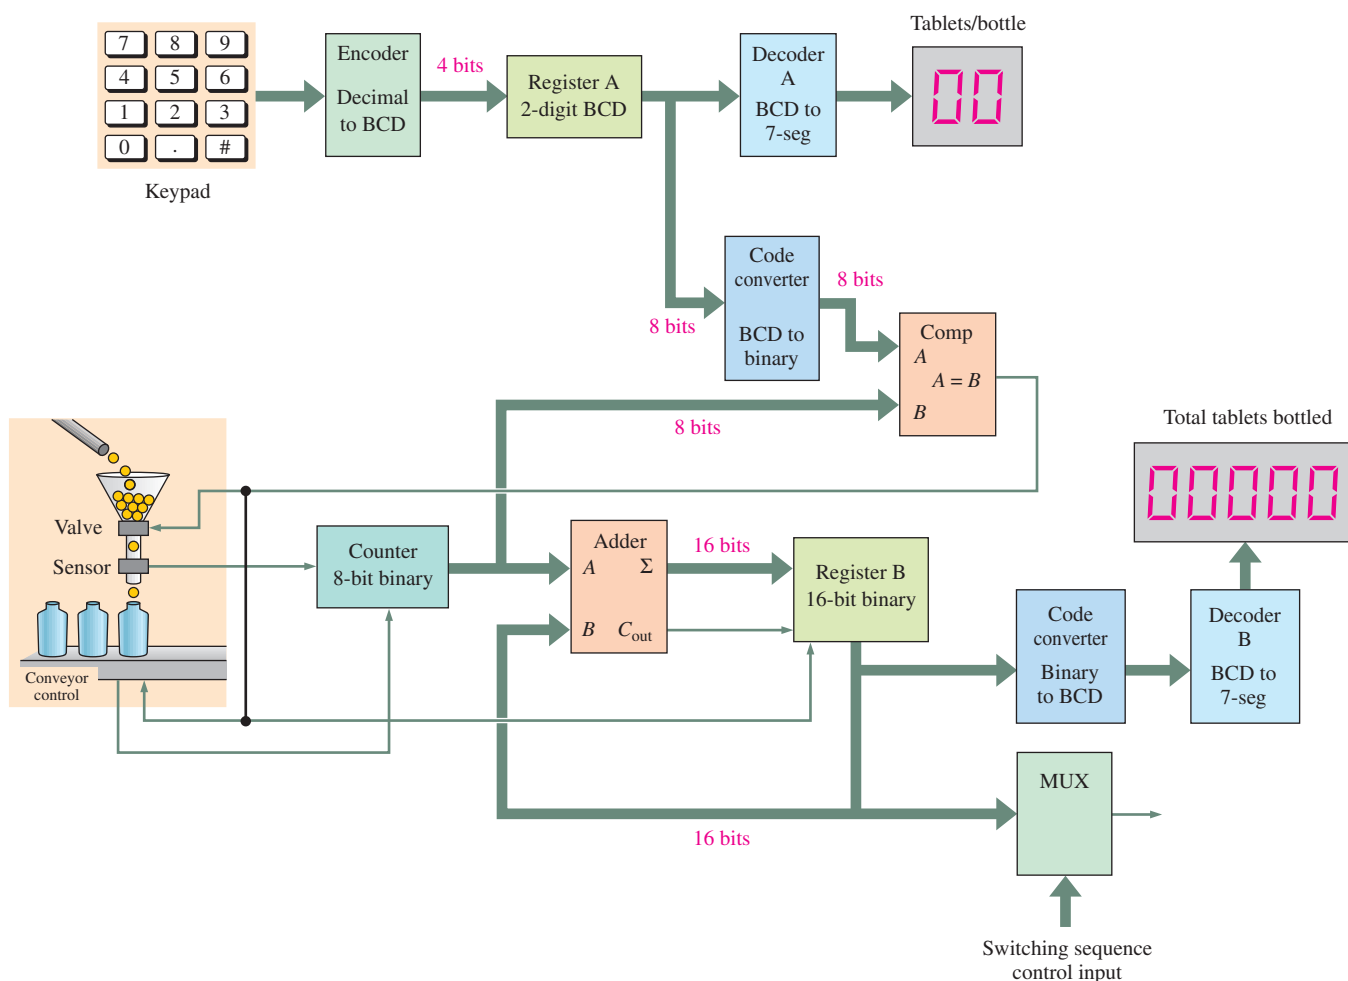

FIGURE 6-87
49. Use 74HC85s to implement the comparator block in the tablet-bottling system in Figure 6-87 and draw a complete logic diagram including pin numbers. The comparator compares the 8-bit binary number (actually only seven bits are required) from the BCD-to-binary converter with the 8-bit binary number from the counter.
50. Two BCD-to-7-segment decoders are used in the tablet-bottling system in Figure 6-87. One is required to drive the 2-digit *tablets/bottle* display and the other to drive the 5-digit *total tablets bottled* display. Use 74HC47s to implement each decoder and draw a complete logic diagram including pin numbers.
51. The encoder shown in the system block diagram of Figure 6-87 encodes each decimal key closure and converts it to BCD. Use a 74HC147 to implement this function and draw a complete logic diagram including pin numbers.
52. The system in Figure 6-87 requires two code converters. The BCD-to-binary converter changes the 2-digit BCD number in Register A to an 8-bit binary code (actually only 7 bits are required because the MSB is always 0). Use appropriate fixed-function IC code converters to implement the BCD-to-binary converter function and draw a complete logic diagram including pin numbers.